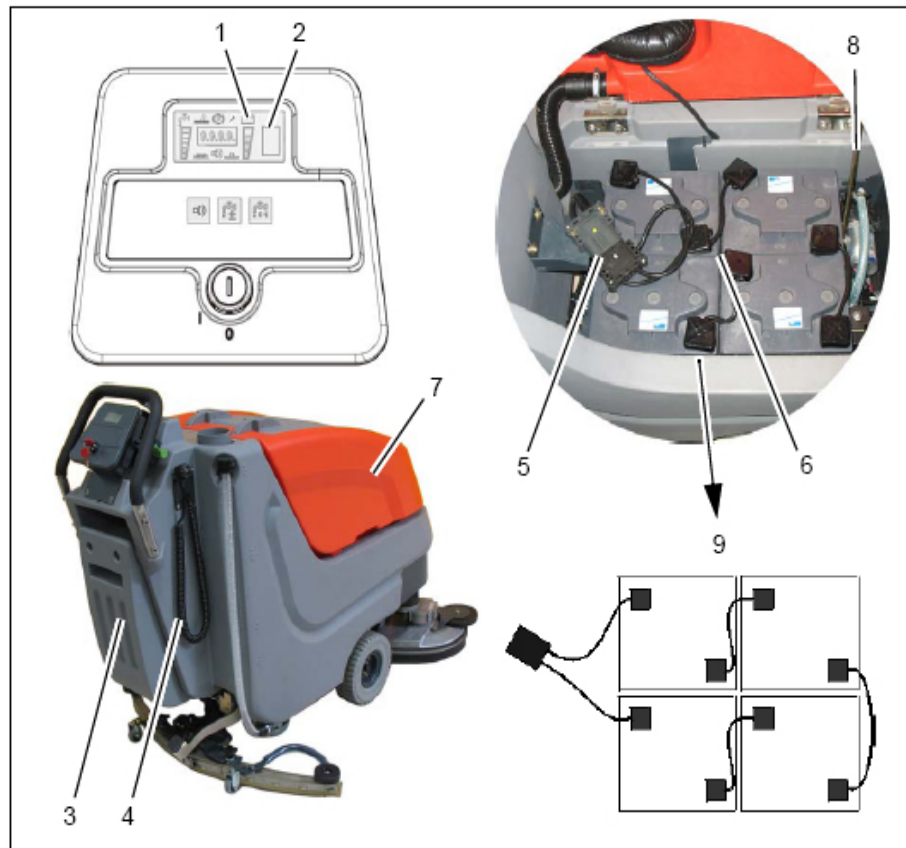

Fig.7
Use the integrated battery charger (Fig.7/3) to charge batteries. Proceed to connect the charger to an AC outlet by the integrated cord (Fig. 7/4) with safety plug. Charging batteries is recommended if at least one bar of the LDS display has extinguished after operation of the machine. You are required to observe the operating instructions of the charger as well as the operating instructions of the battery manufacturer.
3. Open empty dirty water tank (Fig.7/7) and secure with support (Fig. 7/8).
4. Disconnect battery plug (Fig. 7/5).
2. Open empty dirty water tank (Fig.7/7) and secure by support (Fig. 7/8).
4. Connect battery poles and enclosed connecting cables according to wiring diagram (Fig.7/9). Provide for tight fitting and grease poles.